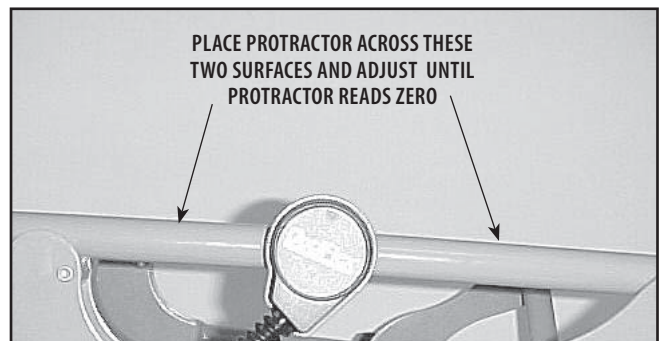

FIGURE 7.4
4. Place the calibrated Protractor with 1° accuracy across the carriage and press the Up and Down Arrow button on the Pendant until the protractor reads zero. Refer to **Figure 7.4**.